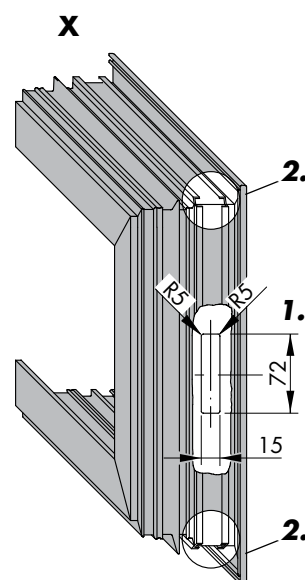

Figure 2
2. Open up the connecting rod's guide-groove (figure 2).
3. Machine the connecting rods S1 and S2 according to the specifications on pages 5 - 6 (DK) or 10 - 11 (TBT).